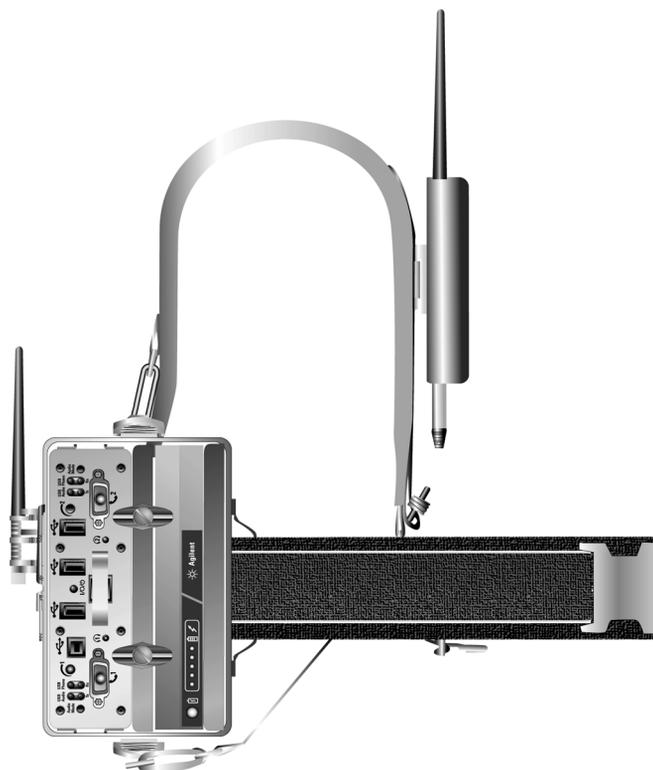

Figure 29 Carry pack side view
- 4 Mount the pack to your body, then connect the buckle of the waist strap. See Figure 29 on page 61.